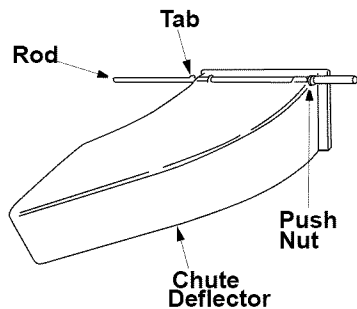

Figure 9
- Slide the rod into the upper edge of the chute deflector so the tab on the rod is toward the left side of the chute deflector. When assembled correctly, the rod will extend further to the left side. See Figure 9.